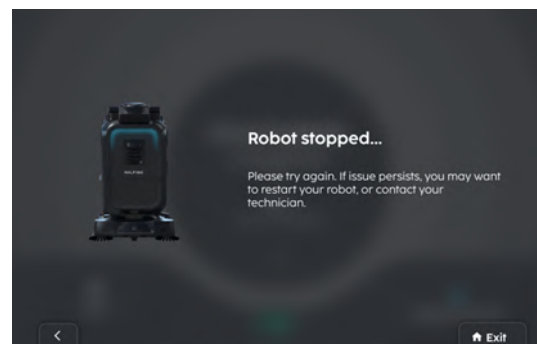

FIGURE 6-9
4. If there are any issues during cleaning, the 'Cleaning Unsuccessful' screen will show (**Fig. 6-9**).